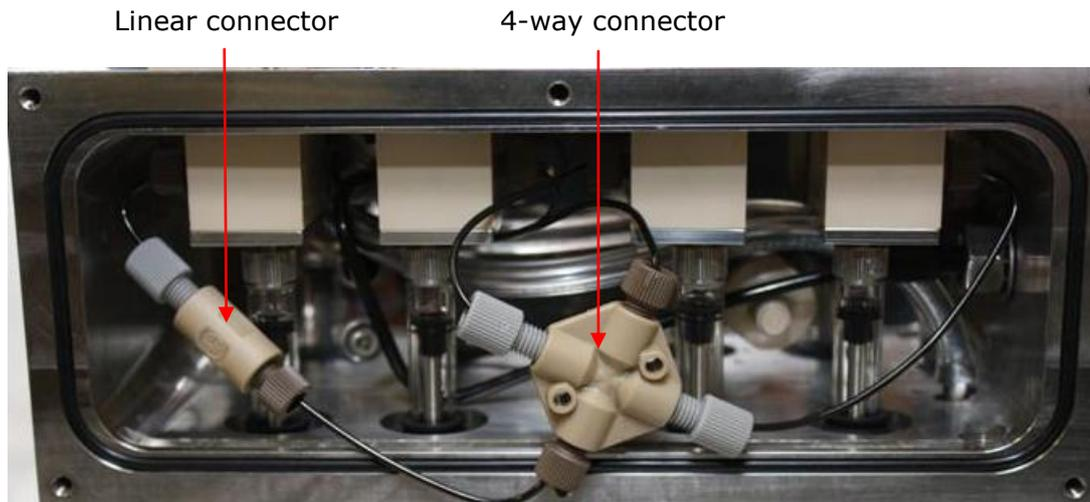
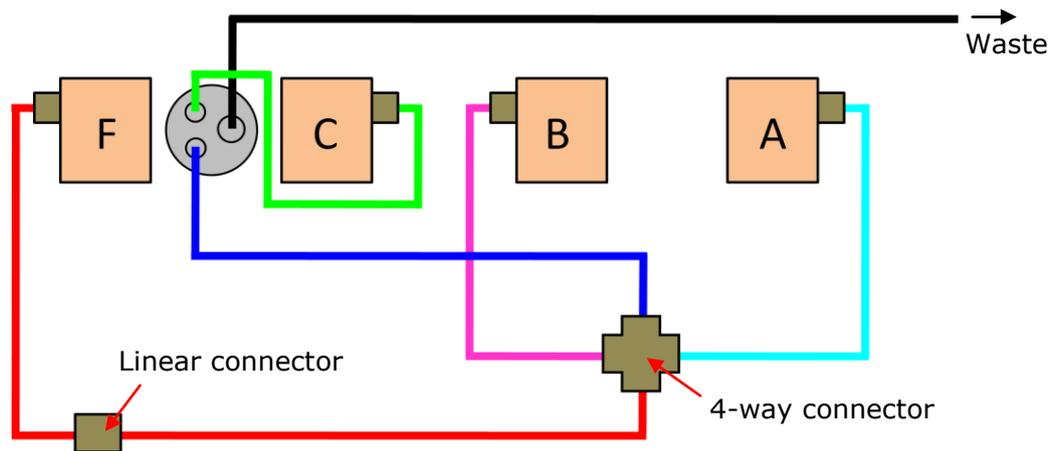

Figure 5.9: flow tubing connections for sequential-mix operation
Figure 5.10: schematic of the flow tubing connections for sequential-mix operation; the tubing sections are shown colour coded for clarity
3. Configure the flow circuit as shown in Figure 5.9 and schematically in Figure 5.10 (overleaf) with valves A and B connected to opposing arms of the 4-way mixer, and valve F to a third arm using the linear connector. The fourth arm connects to the ageing loop. Valve C remains connected directly to the pressure plate.